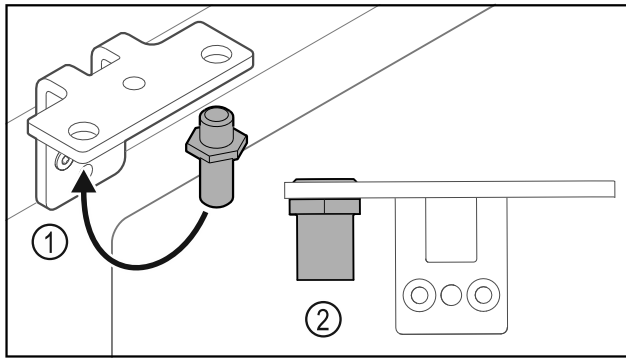

Fig. 32
- ▶ Put the pin back into the hinge Fig. 32 (1).
- ▶ Tighten the pin Fig. 32 (2) to a **torque of 12 Nm**.